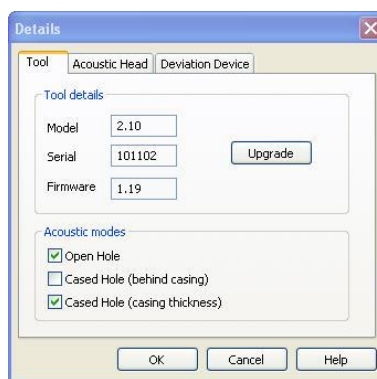

Figure 5-7 Tool Details dialog box
1. Click on **Tool Details**. Note that the firmware version currently in use is displayed in the firmware box. Click on the **Upgrade** button (Figure 5-7).